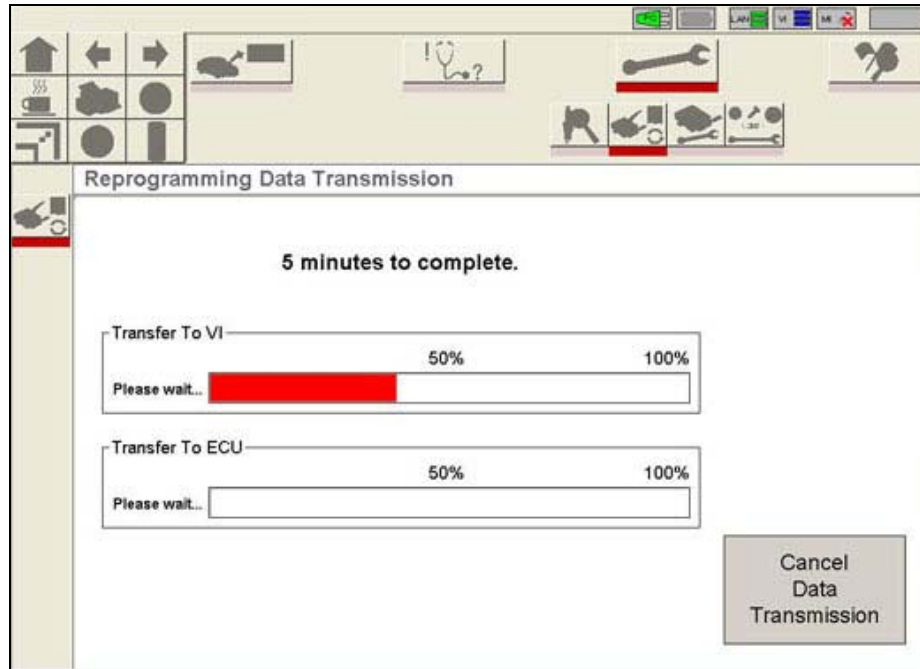

Figure 9
20. The screen in Figure 9 is displayed during data transfer.